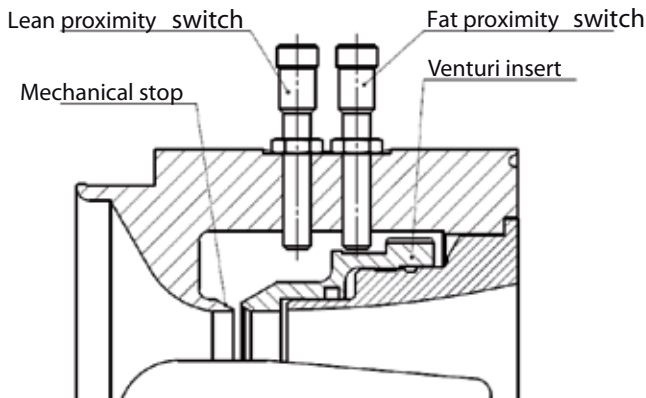

Figure 8: Placement of proximity switch
- Screw the Venturi insert against the mechanical lean stop (mixing gap closed) of the body (see Fig. 8).